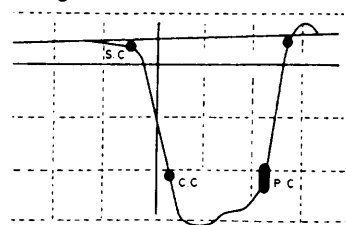

Fig 2.
- 2: Connect the chassis to the instrument as shown in fig. 2.